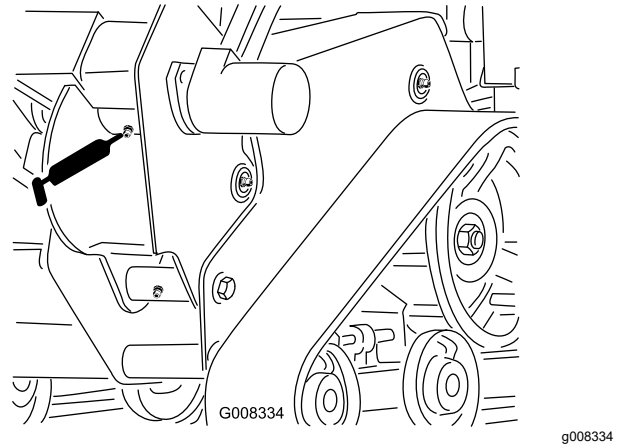

Figure 30
3. Clean the trencher housing grease fitting with a rag and connect a grease gun to it (Figure 30).